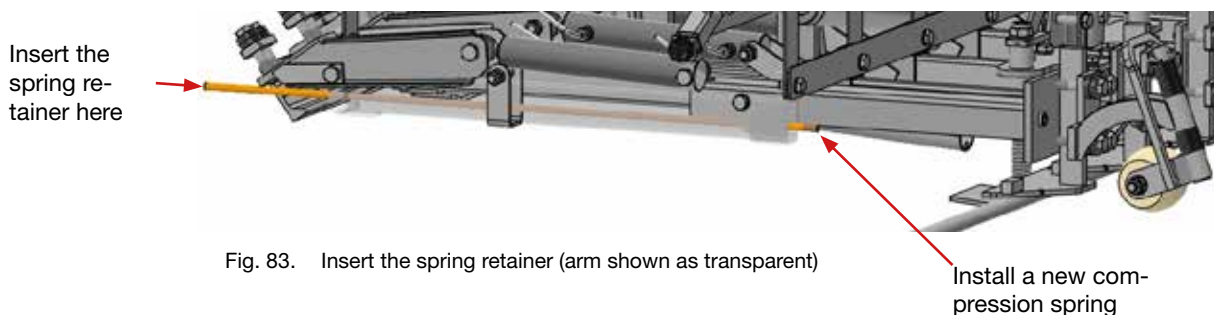

Fig. 83. Insert the spring retainer (arm shown as transparent)
7. Push the spring retainer of the special tool into the arm from the movable side (see Fig. 83).
8. Install the new compression spring (see Fig. 83).